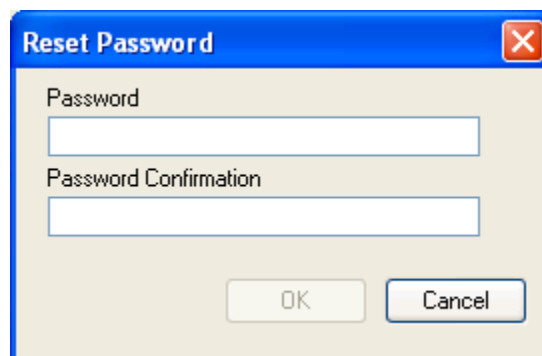

Figure 52 - Reset Password Window
1. Click on the **Reset Password** button. The **Reset Password** window (Figure 52) appears.